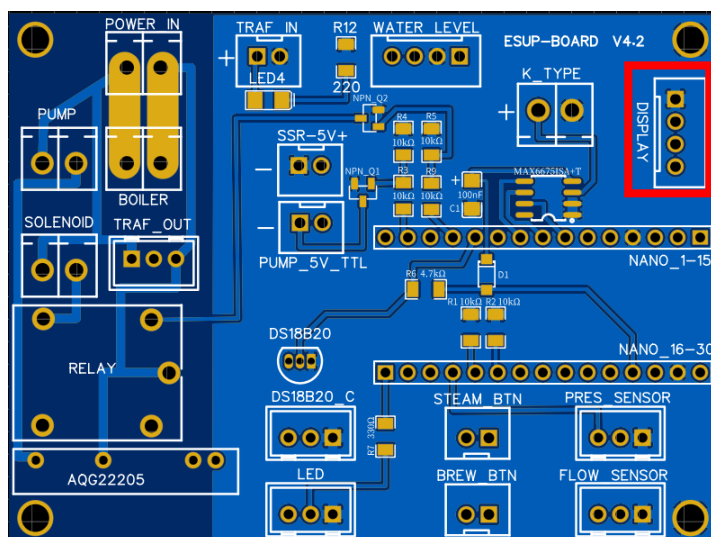

Fig. 5.10
- Connect the cable to the main board (fig. 5.10)